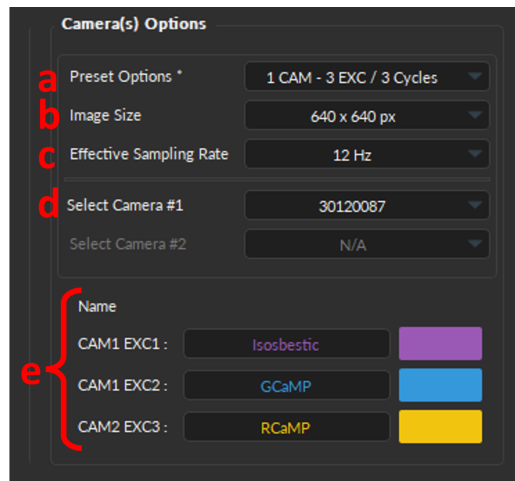

Figure 9.15: Recording Channel - Camera Options
1. The **Camera Options** (Fig. 9.15) defines which preset option to use and allows users to select the proper camera and camera parameters for the recording, such as:
- a) The **Preset Options** drop-down (Fig. 9.15, a) contains six pre-configured options which are listed in Table 9.2, along with their use cases.
- b) The **Image Size** drop-down (Fig. 9.15, b) sets the resolution (pixel x pixel) of the Image stack from which ROI(s) will be computed. There are six options, among which the lowest available *Image size* is 256 x 256, and the maximum is 1024 x 1024. Note that if the save **Image Stacks** option is enabled, using a large resolution will result in larger *.doric* data files.
- c) The **Effective Sampling Rate** drop-down (Fig. 9.15, c) sets the true frequency (in Hz) of each **EXC** since, when more than one excitation is used, the excitations are interleaved with one another, reducing the sampling rate by half (for 2 EXC) or by a third (for 3 EXC). Thus, the following **Effective Sampling Rate** are available according to the number of excitations:
- d) The **Select Camera #** drop-down (Fig. 9.15, d) sets which CMOS camera sensor will be labeled as **CAM1** and **CAM2** (if in use), by selecting the *Camera ID*.
- e) The **Name CAM# EXC#** (Fig. 9.15, e) allows users to label the specific **Camera excitations** with more intuitive name. This setting also lets users select the trace color for the data collected during the corresponding excitations.